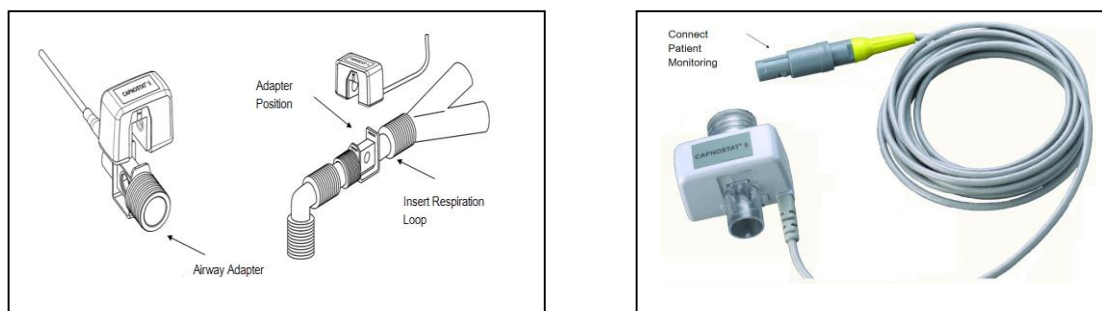

Figure 23-2 Mainstream CO2 module connection schematic
3. Make connections according to the CO₂ module type as Figure 23-2 or Figure 23-3;